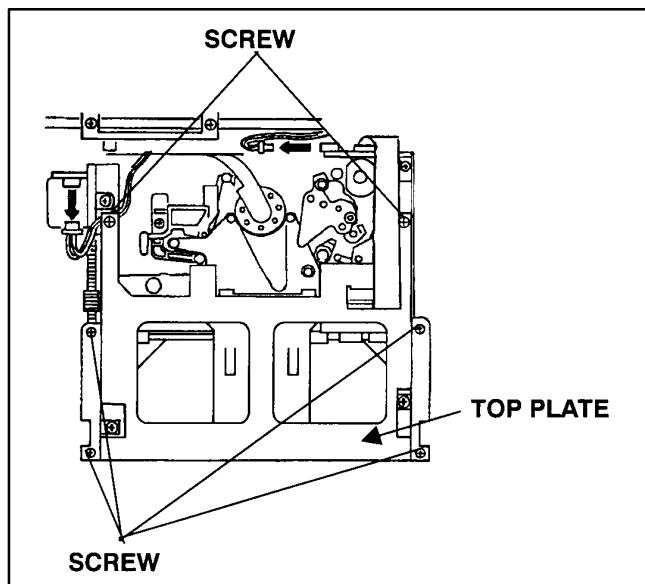

Figure 3-4-1
3. Unscrew the 6 screws and remove the Top Plate on the Front Loading Unit as shown in figure 3-4-1.